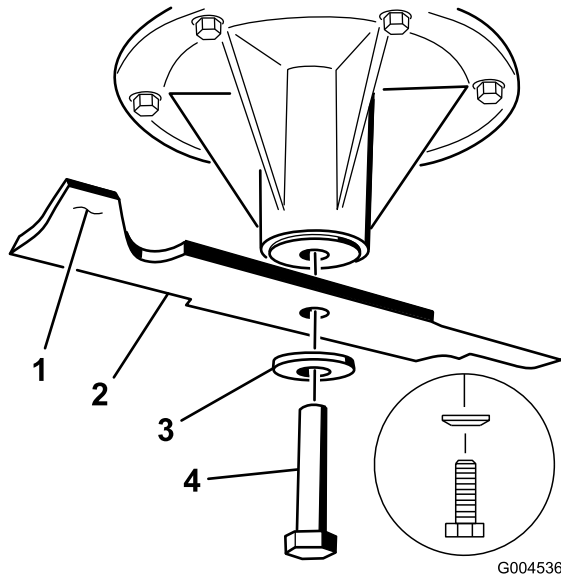

Figure 104
the sail area only (Figure 104). Repeat this procedure until the blade is balanced.
1. Install the blade onto the spindle shaft (Figure 104).
2. Install the spring disk and blade bolt. The spring disk cone must be installed toward the bolt head (Figure 104). Torque the blade bolt to 85-110 ft-lb (115-150 N-m).